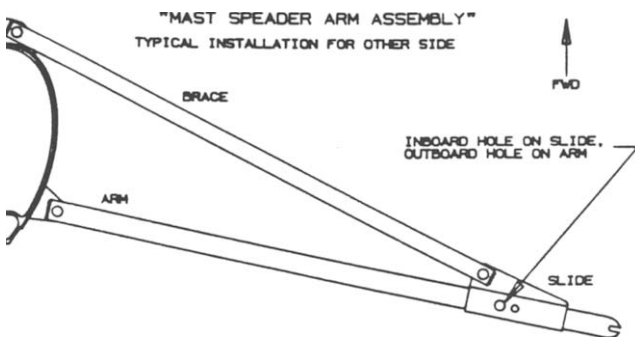

FIGURE 19
9.1 Attach the spreader arms as shown and secure them with cotter pins. (FIGURE 19)